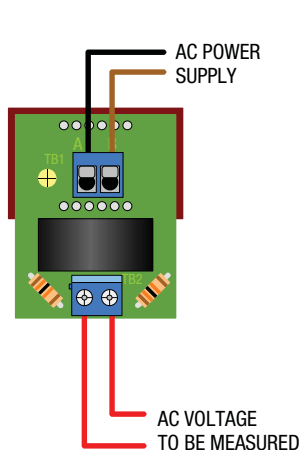

Figure 1A.
- 3. Power Supply Polarity, Fusing, and Grounding:** As shown in Figures 1A and 1B, the two power supply inputs, TB1-A and TB1-B, on ac-powered DMS-20RM voltmeters ("-AC1" suffix) are not polarity sensitive, that is, they have no "AC LO" or "AC HI" designations. Also, ac-powered models do not include or require a connection to earth/chassis ground. DC-powered models ('-DC2' suffix) are reverse-polarity protected, and must be connected as shown in Figure 2 for proper operation. DMS-20RM ac voltmeters are not internally fused. If fusing is required it must be externally installed according to the supply wire's maximum amperage rating.